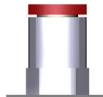

Figure 4.11.: End piece of the purge gas quick connector (marked red)
3. Press the end piece (marked red in figure 4.11 on page 25) into the quick connector, hold it pressed down and pull out the hose.